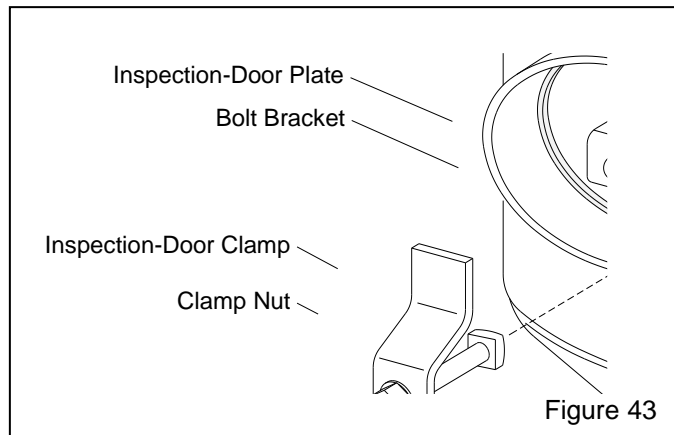

Figure 43
1. Loosen the inspection-door clamp nut enough to slide the clamp bolt from behind the bolt bracket, and then remove the clamp and bolt assembly, as shown in Figure 43.